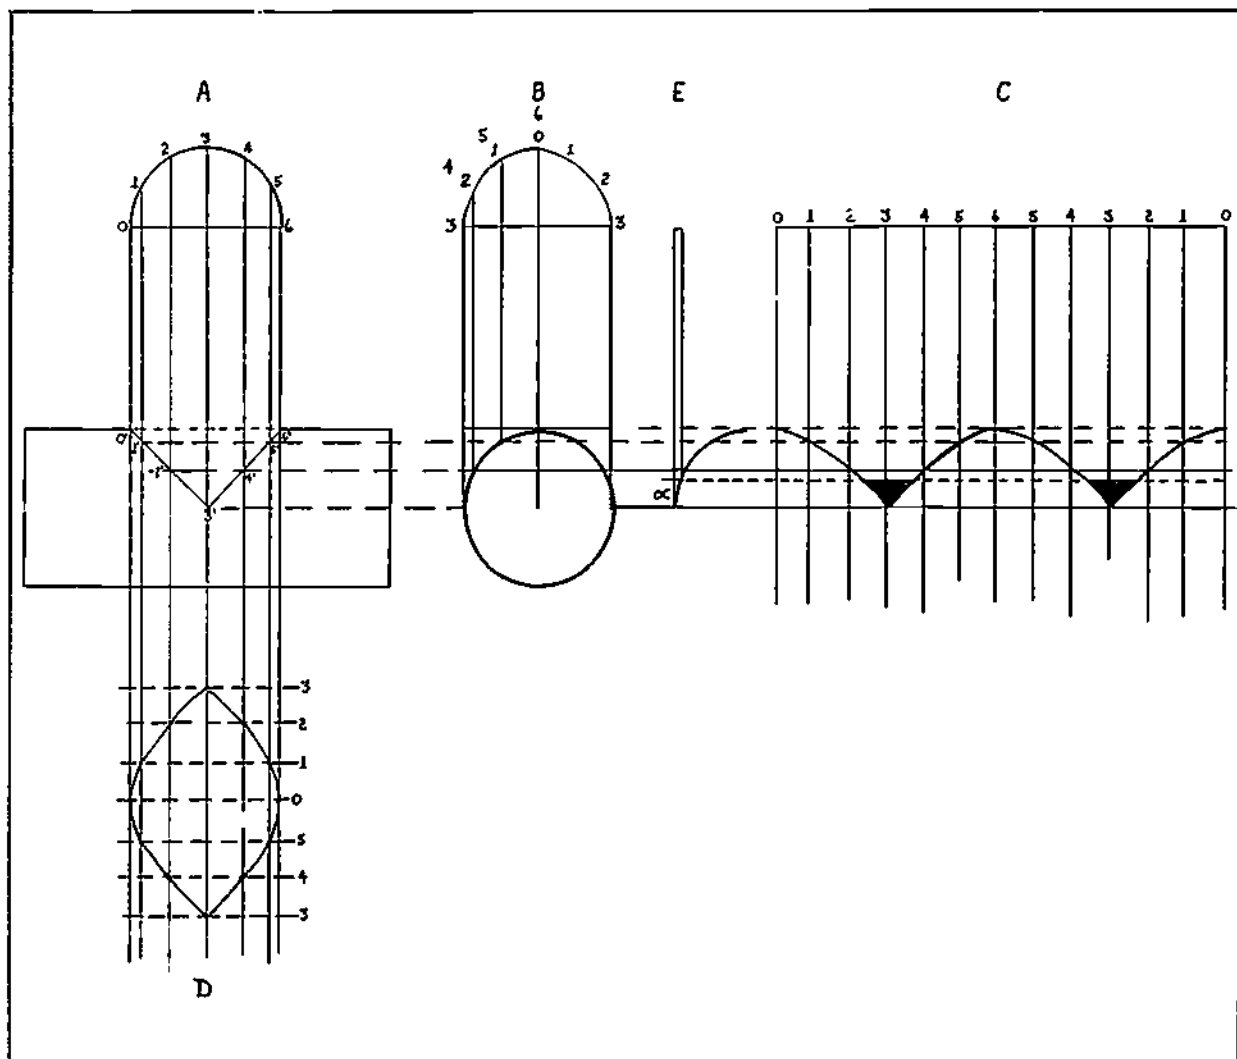

Figure 5-32. 90° Tee Equal Pipes
- Step 1. Draw the side elevation as shown in A in Figure 5-32.
An additional end elevation "E" in Figure 5-32 illustrates a significant layout consideration when fabricating intersecting pipes. The thickness of the pipe must be taken into account and bevelled as required. In this example, the distance "a" which is shaded represents the length of the bevel.